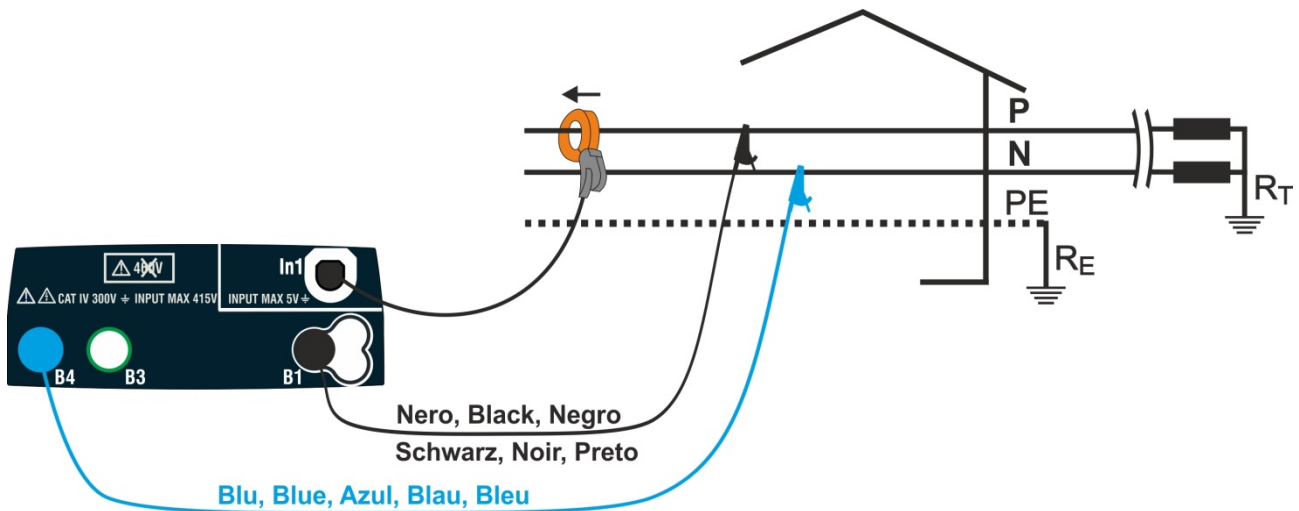

Fig. 38: Connection for measurements in a single-phase system
- **FS** → This key allows selecting the full scale (FS) of the clamp transducers which can be used with the instrument. Following values are available: **1A, 5A, 10A, 30A, 40A, 100A, 200A, 300A, 400A, 1000A, 2000A, 3000A**
3. Insert the blue and black connectors of the separate cables into the relevant instrument input terminals B4 and B1. In the free end of the cables, insert the corresponding alligator clips or leads. Connect the alligator clips, leads to phase P and to N according to Fig. 38 to measure voltage in single-phase systems. Connect the external clamp to the instrument's input **In1** and to the phase conductor for single-phase systems. The arrow on the clamp must point in the direction of the current flow, normally from generator to load, as shown in Fig. 38.